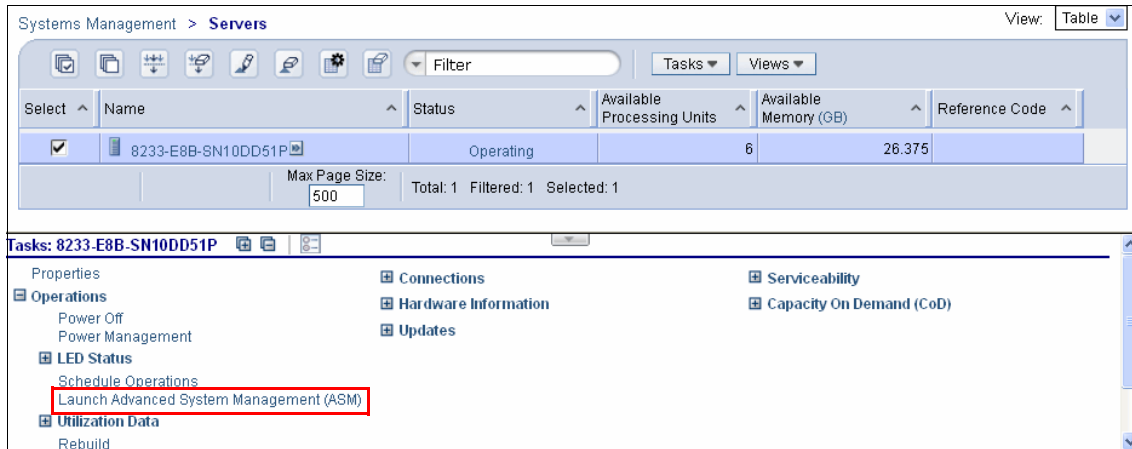

Figure 6-65 Launch ASMI from HMC
2. In the contents area, select the server to which you want to connect the ASMI (Figure 6-65).